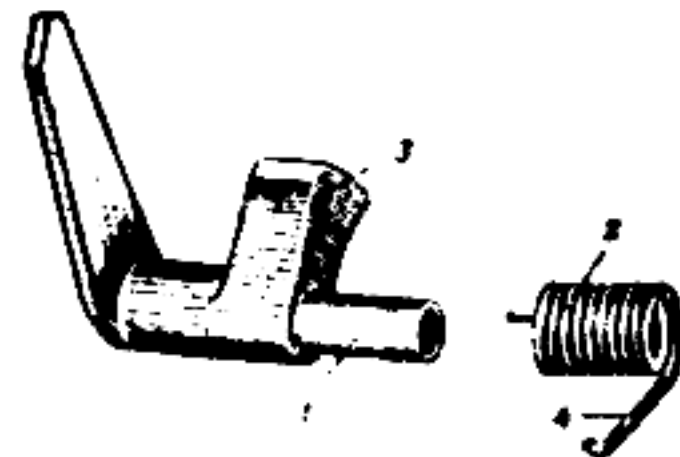

Figure 40. Full automatic sear with stamped receiver.
The full automatic sear (fig. 40) of these rifles has a tubular pin (1) on the left end of which is installed the full automatic sear spring (2).